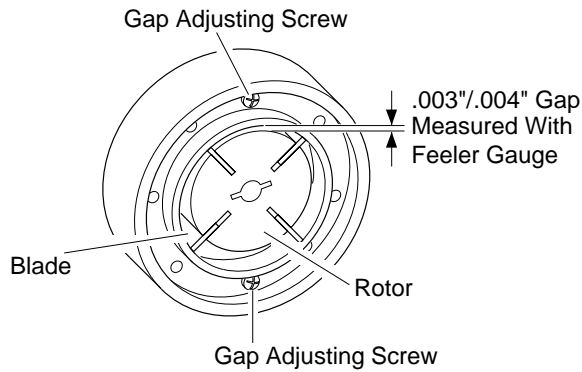

Figure 17 - Gap Adjusting Screw Locations
9. Check gap on rotor. Adjust to .003"/.004" if needed (see Figure 17, page 12).